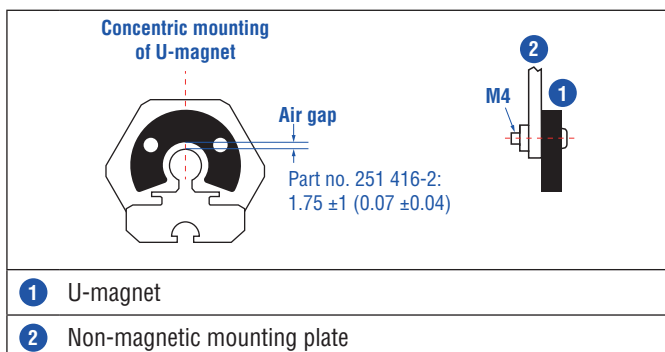
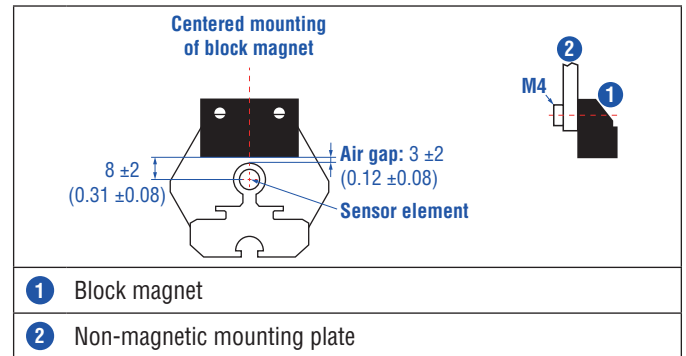

Fig. 13: Mounting of U-magnet (part no. 251 416-2)
Fig. 14: Mounting of block magnet (part no. 403 448)
- Mount block magnets centrically over the sensor rod or the sensor profile. The maximum permissible air gap must not be exceeded (Fig. 13/ Fig. 14). Take care to mount the primary sensor axis in parallel to the magnet path in order to avoid damage to the carriage, magnet and sensor rod/profile.